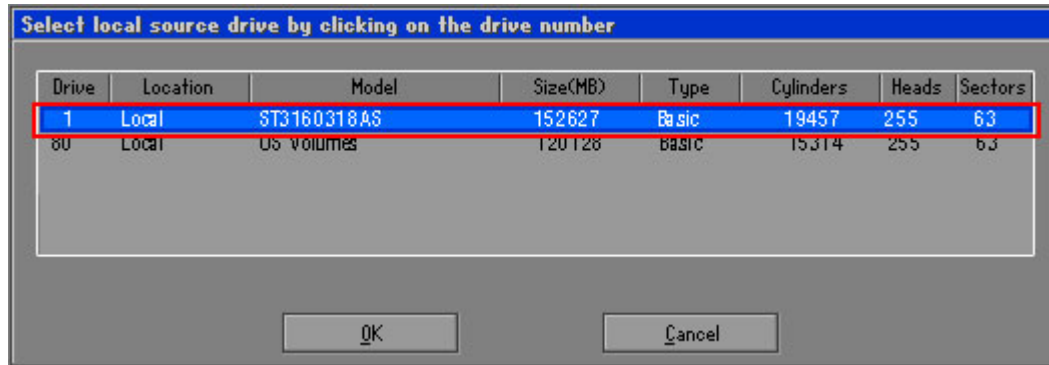

Figure A-14: Select a Local Source Drive
Step 5: Select the local source drive (Drive 1) as shown in Figure A-14. Then click OK.